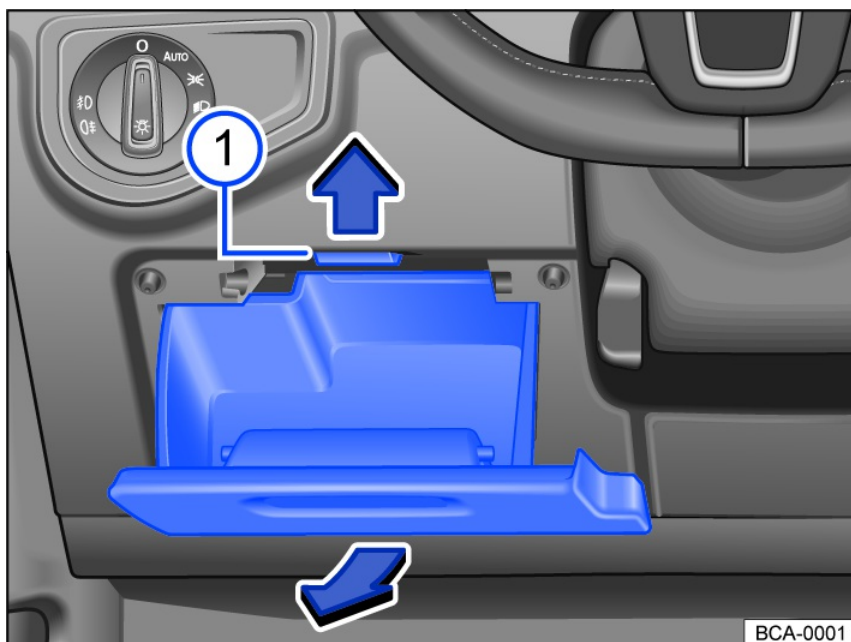

Fig. 178 On the driver side in the instrument panel: fuse box cover.
2. Push as far upwards as possible fig. 178 ① and open the driver side stowage compartment again in the direction of the arrows and pull off.